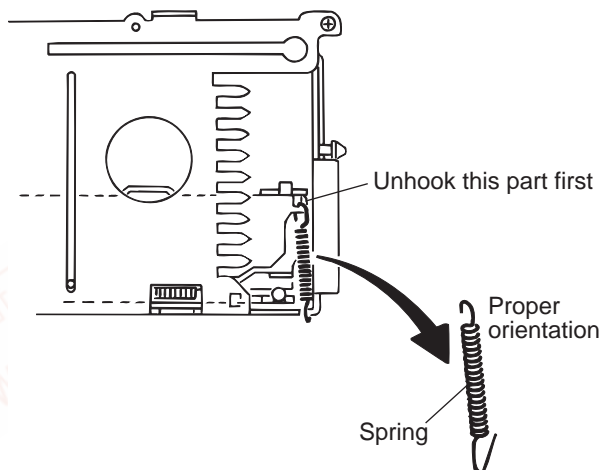

Fig.8
3.2.7 Lifter unit (See Fig.8 and 9)